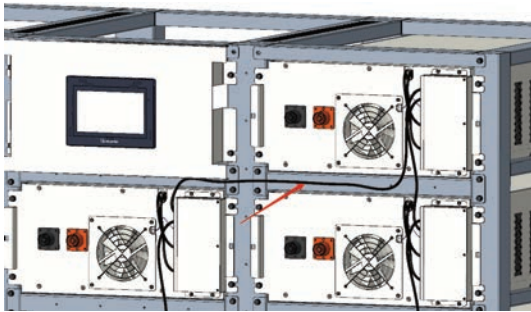

Figure 2.9
(5) Tenth and eleventh battery box BMU communication connection (Figure 2.9) .